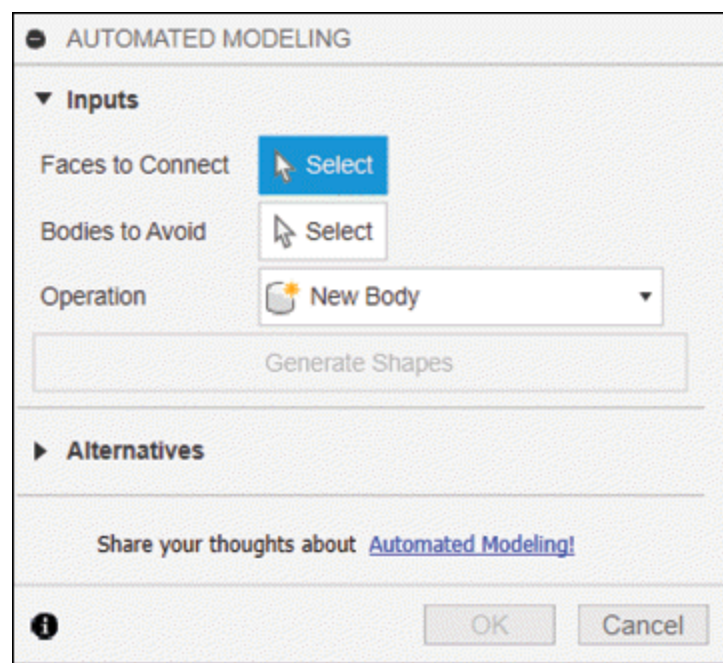

Figure-66. AUTOMATED MODELING dialog box
- Click on the **Automated Modeling** tool from the **AUTOMATE** drop-down in the **Toolbar**. The **AUTOMATED MODELING** dialog box will be displayed; refer to Figure-66 and you will be asked to select faces to be connected.